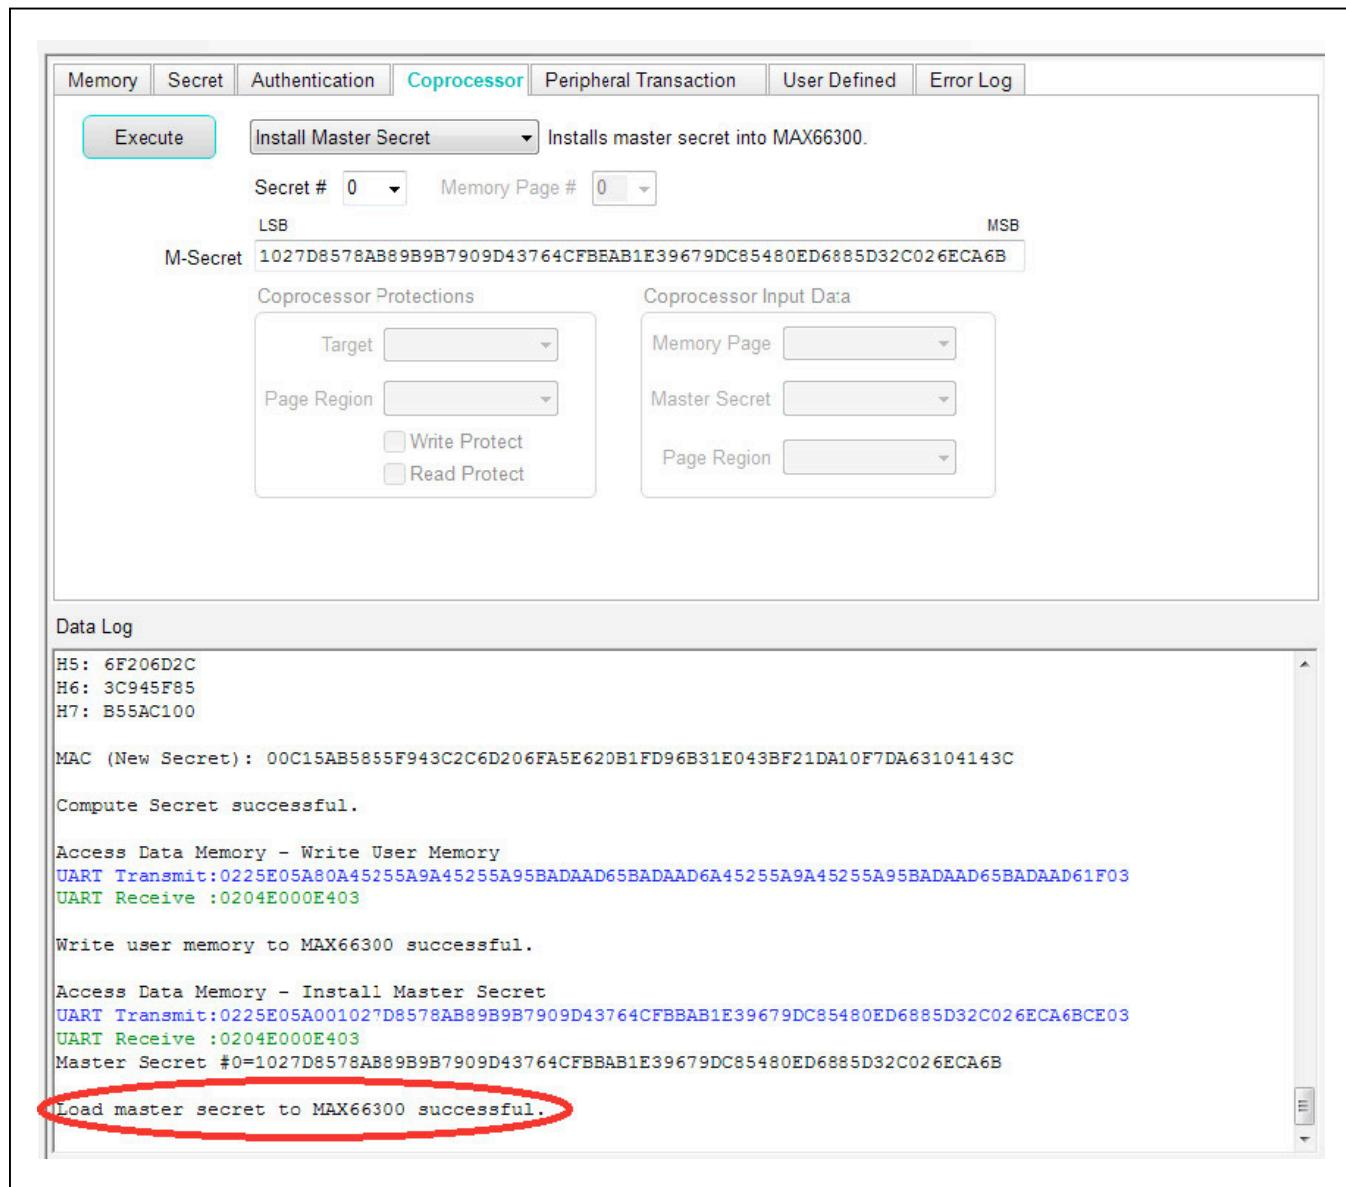

Figure 30. Install Coprocessor M-Secret
- 26) Confirm the “**Load master secret to MAX66300 successful**” message displays in the **Data Log** box (Figure 30).